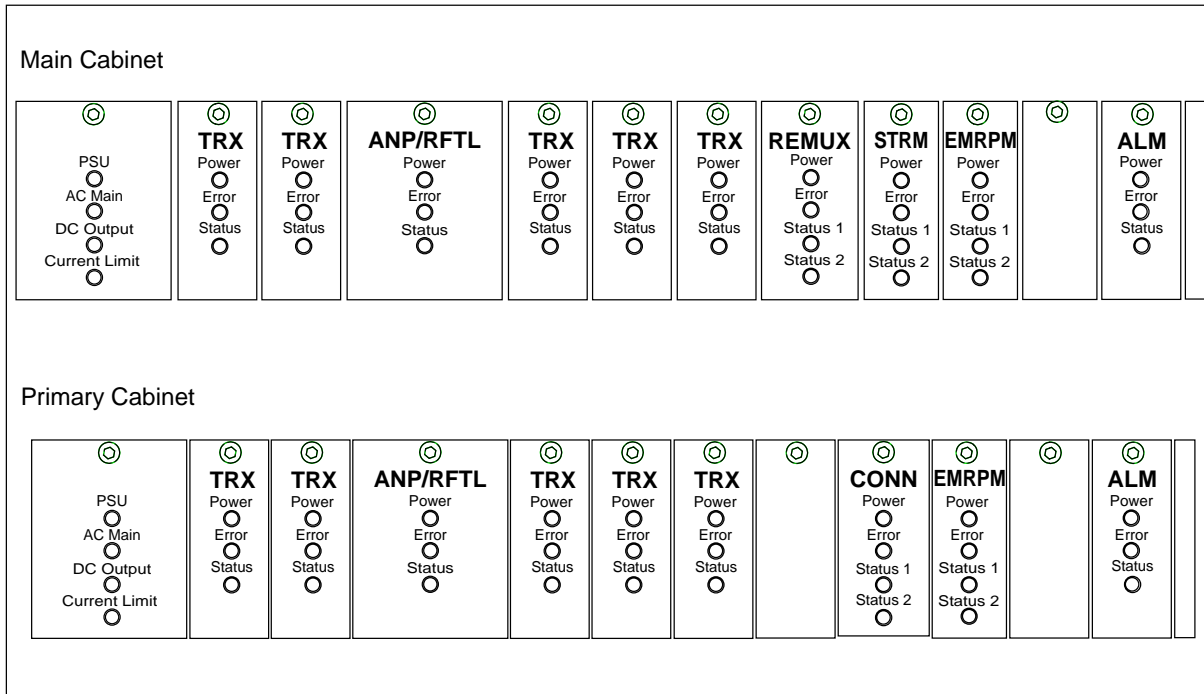

Figure 4-39. The Green Power LEDs and Red Error LEDs
6. Check that the green Power Light Emitting Diode (LED) on each of the units in the cabinet is on (see Figure 4-39 on page 4-57).
8. Check that none of the red Error LEDs is on (see Figure 4-39 on page 4-57).